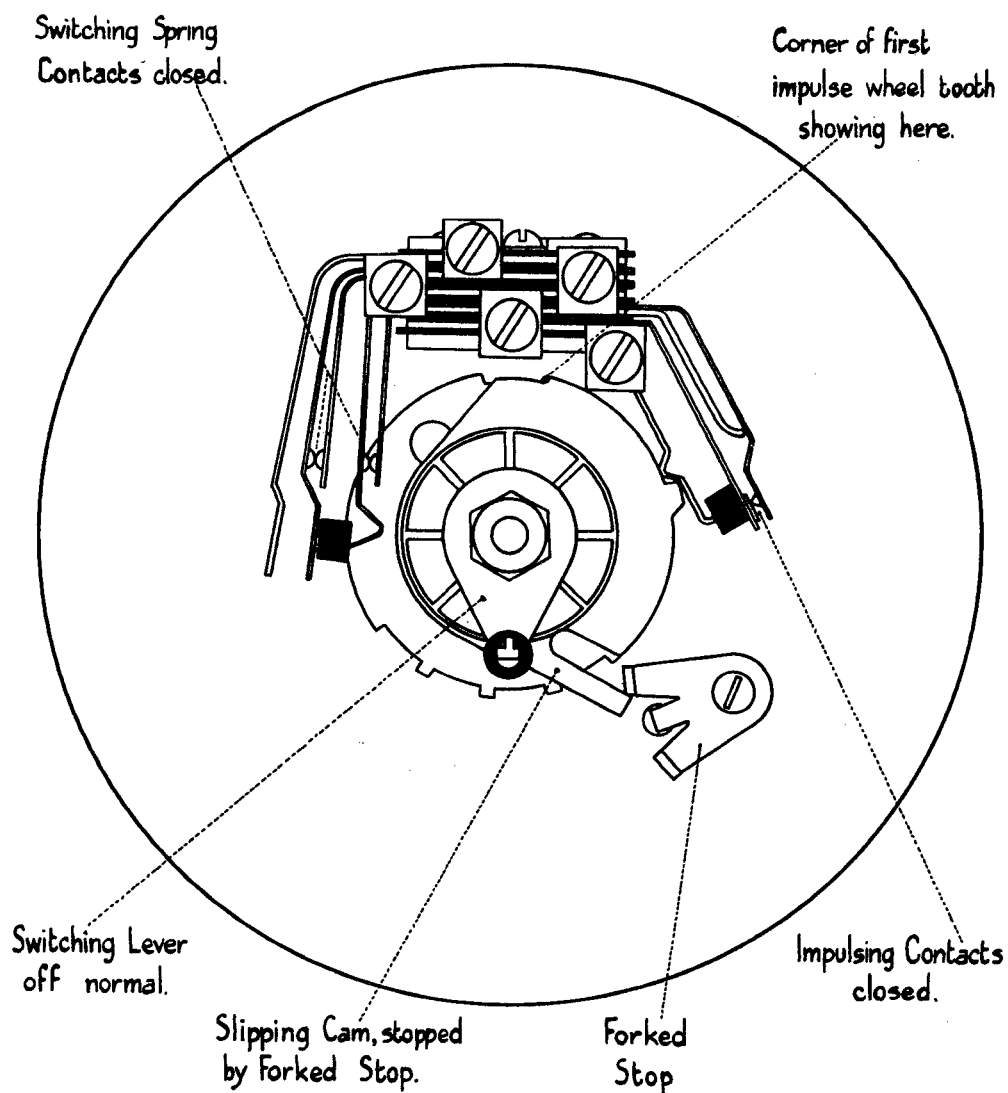

Fig. 24. One Impulse Prepared.
2.13 Figure 24 shows the dial prepared for sending one impulse. Note that the corner of an impulse wheel tooth is just showing in the impulsing recess of the slipping cam, also that impulsing spring contacts and switching spring contacts are closed.